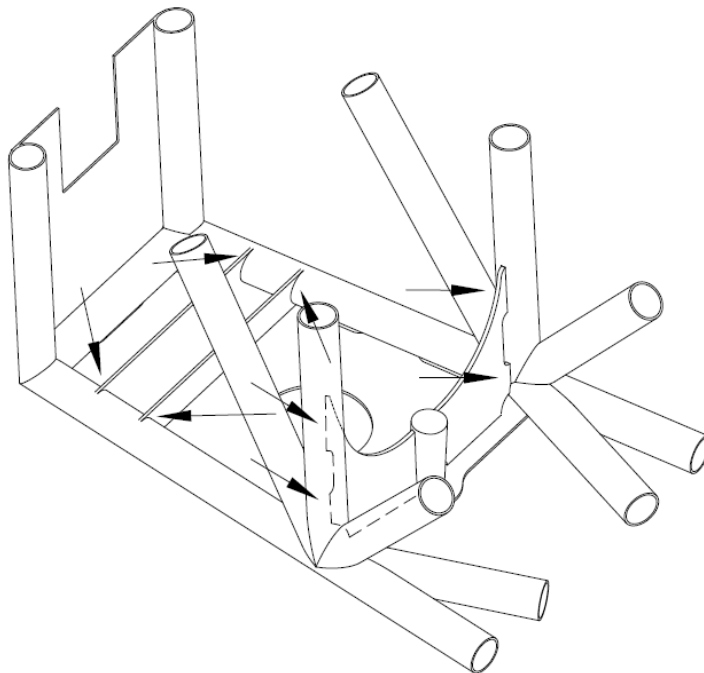

Figure 1: Possible crack locations in the area of tail gear spring attachment (retrofit plates of SB-300-2-97 issue A installed)
- Visual inspection of tail spring mounting along welds to fuselage tubing. Cracks have been reported at the spots marked in figure 1. Investigate these areas carefully. To assist the visual inspection it is helpful to use a torchlight and a magnifying glass.
- Inspect tail spring mounting base for previously unnoticed cracks, especially at the spots marked in figure 1.